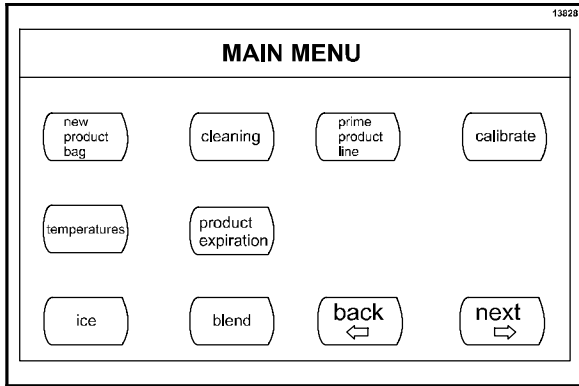

Figure 142
- From the Main Menu screen, press the CALIBRATE key. (See Figure 142.)